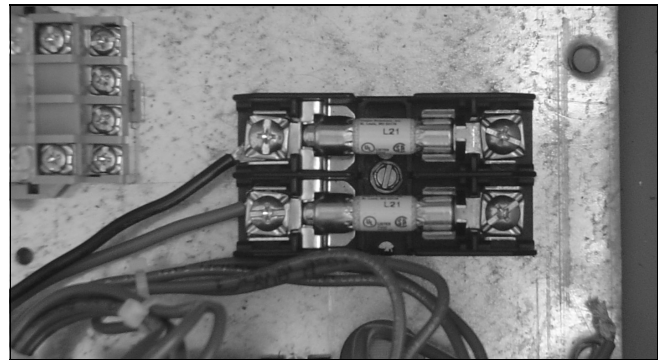

Figure 77. TVSS Red and Black Wires Connected to the TVSS Fuse Block.
Step 10: Connect the red and black TVSS wires to the TVSS fuse block, using a blade screwdriver (see Figure 77).